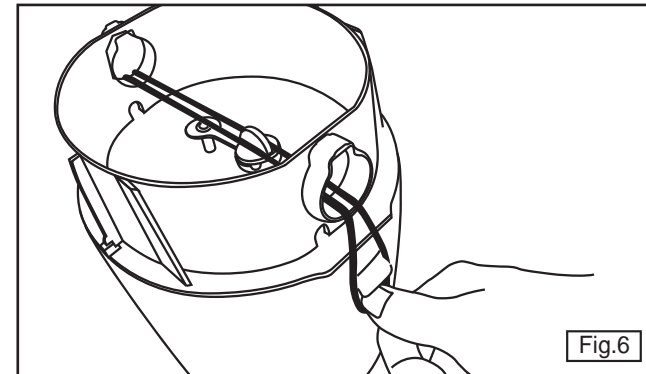

Fig.6
6. Remove the Inner Nose Cone. To do this, first feed the silicone ring (provided with this manual) through the latch holes in the Inner Nose Cone and hook over the hooks on the Battery Housing (see figure 6). Then screw the Pump Nozzle onto the Vent Hole and pump air into the Battery Chamber until the Inner Nose Cone pops off and then remove the silicone ring.